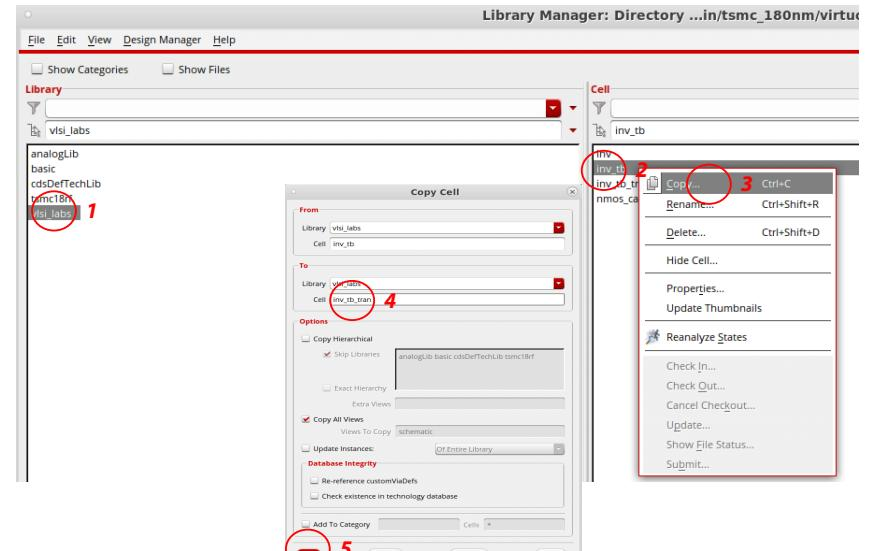

Figure 22: Copying a cell.
- On the window, select the name you want (*inv\_testbench\_tran* for instance) for this new testbench in the appropriate field and click OK (Fig. 22).